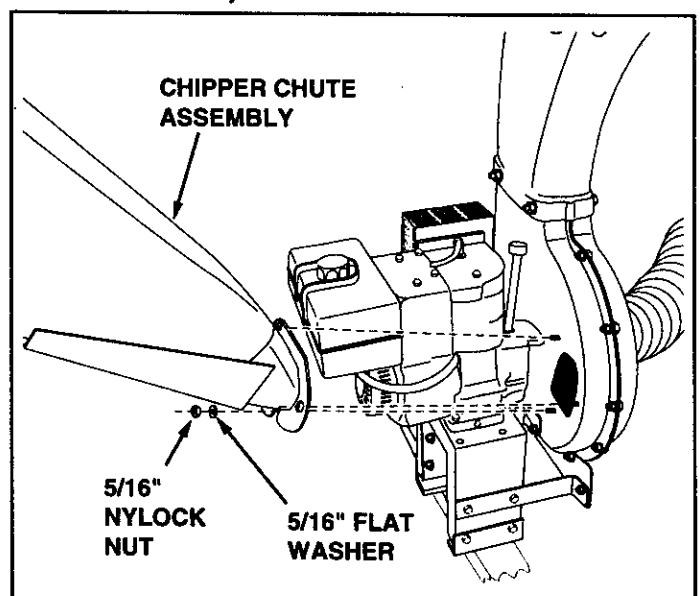

FIGURE 27
- Attach the chipper chute assembly to the weld bolts on the back side of the impeller housing using three 5/16" flat washers and 5/16" Nylock nuts. **Tighten.** See figure 27.